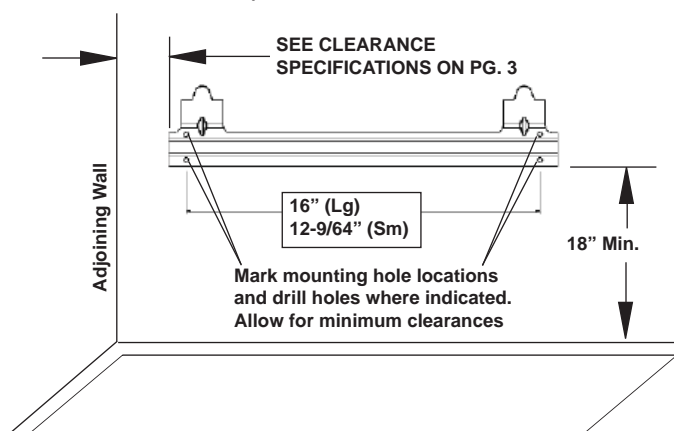

Figure 7
! WARNING: Maintain minimum clearances shown in figure 7. If you can, provide greater clearances from the floor and joining wall.
2. Mark screw locations on wall (see figure 7).